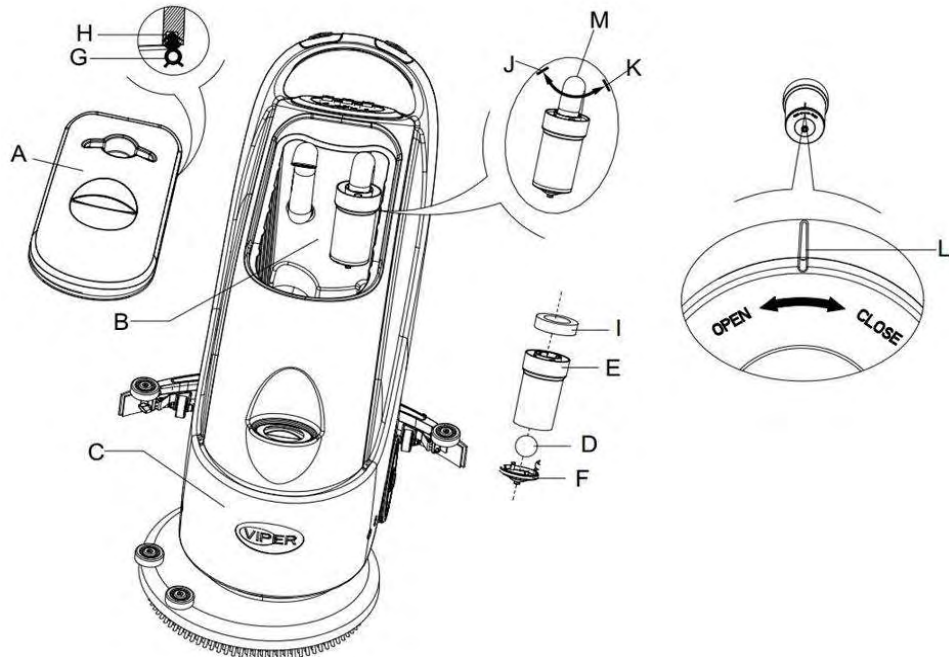

Figure 16
2. Press the power switch (41) to the position “O” to turn off the machine.
3. Open recovery tank lid (A, Figure 16), and take off the float device (36) from recovery tank.
4. Use pure water to clean recovery tank lid (A), the tank (B and C), and the float filter support frame (E). Through the Recovery tube (15), drain all the water from the water tank.
5. If necessary, following the symbols “Open” and “Close” as shown in Figure 16, open the bottom lid (F) of the float filter and clean the float (D), float filter support frame (E), and the filter sponge (I). After cleaning, fix the float onto the float filter support frame (E), and then align the mark groove (L) of the bottom lid (F) of the float filter with the mark groove (L) of the float filter support frame (E). Turn the bottom lid (F) of the float filter tight, and fix the filter sponge (I) onto the float filter support frame (E), and then onto the Vacuum tube (M).
6. Check the soundness of the sealing ring (G) of the water tank lid.
**The sealing strip (G) of the water tank makes the water tank create a vacuum. It must be completely sealed to be able to effectively suck the wastewater from the floor.**
If necessary, the sealing strip of the water tank (G) may be taken out from the groove (H) and changed. When assembling a new water tank sealing strip, as shown in Figure 16 below, install the connector to the middle section of the rear part.
7. Check if the receiving surface of the sealing strip (G) is intact and seals adequately.
8. Close recovery tank lid (A).